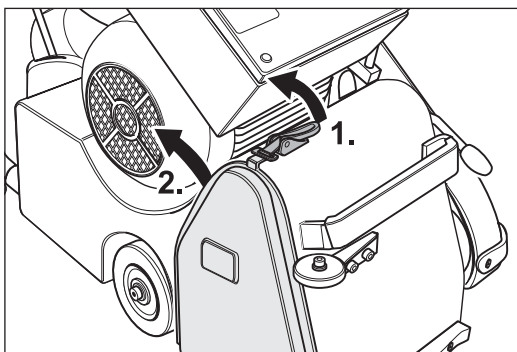

Fig. 67 Release the cover lock (1.) and remove the side cover (2.).
- 3 Release the cover lock (Fig. 67, 1.) and remove the side cover on the right of the machine housing (Fig. 67, 2.).
- 3 Release the cover lock (Fig. 67, 1.) and remove the side cover on the right of the machine housing (Fig. 67, 2.).**